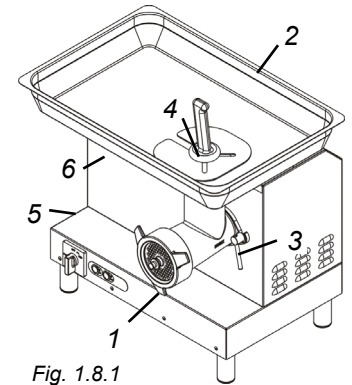

Fig. 1.8.1
4. Hand protection device. In the model shown, the hopper has protection "2" (Fig. 1.8.1) rigidly secured, in accordance with Circular Letter no. 66 of the (Italian) Ministry of Labour and Social Security dated 5 September 1979.